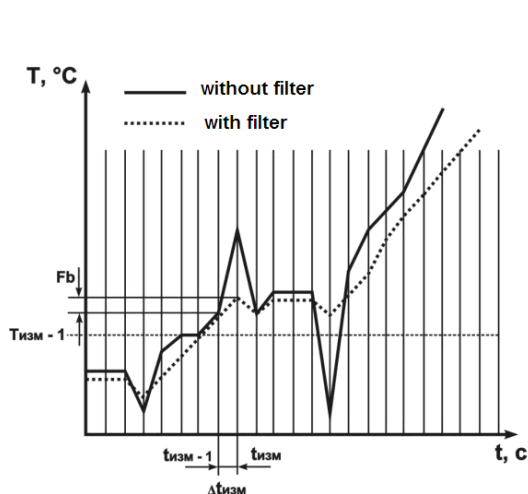

Figure 3.5
3.2.4.1 The digital filter band allows protecting the measurement route from single interference and is set in °C. If the measured value $T_{изм}$ is different from the previous $T_{изм-1}$ by the value larger than Fb parameter value, the device assigns to it a value equal to $(T_{изм} + Fb)$ (Figure 3.5). Thus the characteristic is smoothed out.
As seen in Figure 3.5, smaller band width of the filter leads to slowing down the device reaction to temperature change. That is why in case of low interference level or during operation with discontinuous temperatures it is recommended to increase the parameter value or switch off the filter band action by setting the Fb_1 (Fb_2, Fb_3, Fb_4) parameter value to 0.